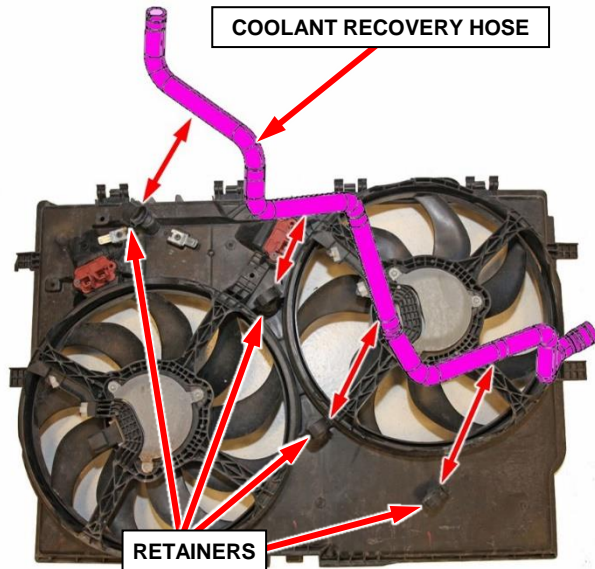

Figure 5 – Coolant Recovery Hose
7. The following cooling fan module steps may be performed together; some connectors or retainers may be more easily accessible from above or below. Disconnect any that are accessible from above first then raise and support the vehicle to access those accessible from below (Figures 5 through 7).
- From above or below as necessary, release the coolant recovery hose from the four retainers on the fan module (Figure 5).
14. As necessary, transfer any coolant recovery hose retainers from the old cooling fan module to the **NEW** cooling fan module (Figure 5).
22. The following cooling fan module steps may be performed together; some connectors or retainers may be more easily accessible from above or below. Connect any that are accessible from below first then lower the vehicle to access those accessible from above (Figures 5 through 7).
- From below or above as necessary, install the coolant recovery hose to the four retainers on the fan module (Figure 5).